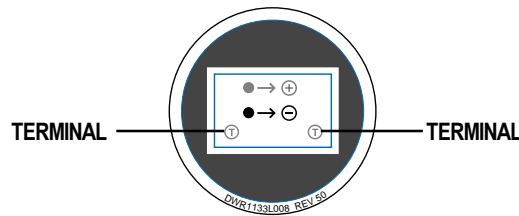

Figure 31. Battery Layout Label
- Check all electrical connections. Make sure they are tight and are not corroded. Batteries must sit flat within the battery well, with the battery terminals facing inward, toward each other. Refer to the battery harness decal for the correct battery layout. See figure 31.
The batteries on your power chair are located inside battery boxes, in the power base. See figure 4. For information on how to reconnect the batteries, refer to the battery harness decal which is located inside each battery box. See figure 31.
5. Install the new battery into the battery box. Make sure that the terminals are facing the the correct direction. Refer to the battery layout label on the bottom of each battery box. See figure 31. The battery terminals in the front battery box face the the back of the box. The battery terminals in the rear battery box face the front of the box. When both batteries are installed correctly, the battery terminals face each other.